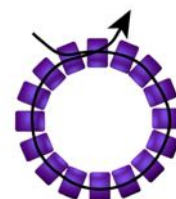

figure 1
1. Begin by single threading 4 feet of fireline onto a size 13 beading needle. Wax well. Thread up sixteen **cylinder A** and pass through the first two beads a second time, creating a circle. If you prefer, you can tie a knot. Leave approximately 6 inches of tail thread. **(figure 1)**.